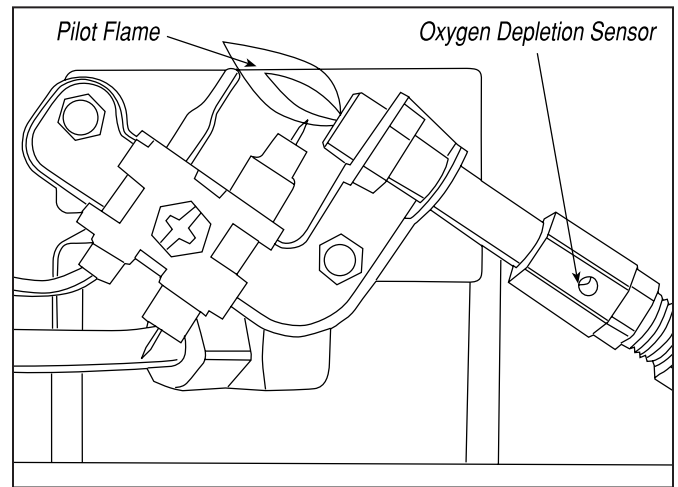

Figure 3
Visually inspect the pilot flame and burner periodically during use. The pilot flame should be blue in color (not yellow) and will extend beyond the thermocouple. The flame will surround the thermocouple just below the tip, see Figure 3. A slight yellow flame may occur where the pilot flame and main burner flame meet. The burner(s) should be bright orange (with a slight blue color around the border, a red-orange haze that is visible on the ceramic tile is acceptable) and without a noticeable flame.
- 4 Remove (4) screws securing back cover to heater. Lift up slightly to release (2) plastic hooks on top of back cover.
- 6 Remove (3) screws attaching lower baffle to expose burner air openings.
- 9 Inspect and clean pilot (mounted to bracket) by using a vacuum or apply air pressure through the holes in the pilot indicated by the arrows in Figure 3.
- 11 Reinstall lower baffle with (3) screws
- 12 Slide back cover over (2) plastic hooks on top of heater. Make sure rear cover aligns with plastic side covers. Install (4) screws to hold in place.